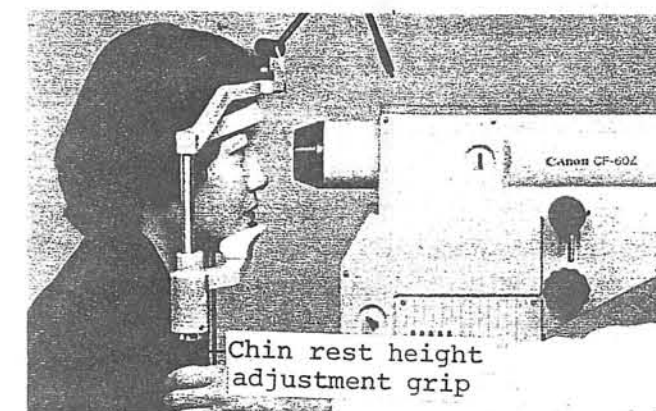

Fig. 35
4. Have an examinee administered with mydriatic eye drops sufficiently in advance sit in front of the main unit. Place the examinee's chin and forehead on the chin rest and the forehead rest. Adjust the chin rest height adjustment grip until the center of the examinee's pupil is aligned with the center of the objective lens. (Fig. 35)